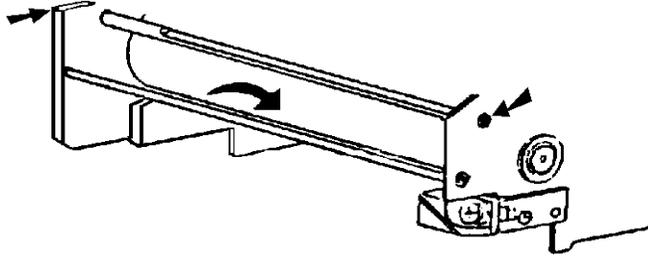

FIGURE 8
1. Loosen the two (2) screws retaining Label Stripper Bar. (Figure 8)